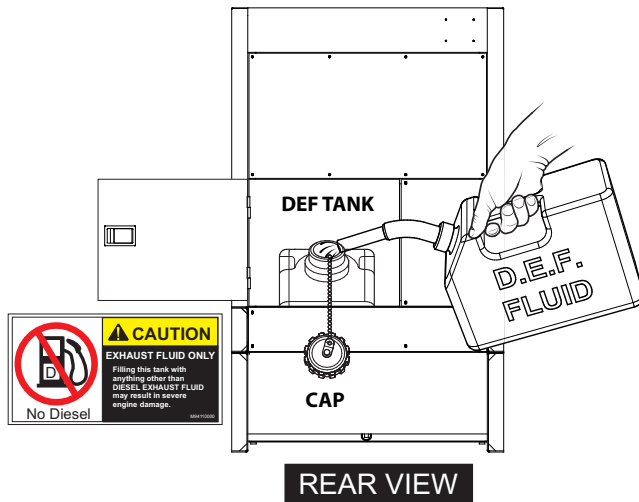

Figure 33. DEF Tank Filling
2. Remove the **filler cap** from the DEF tank (Figure 33).